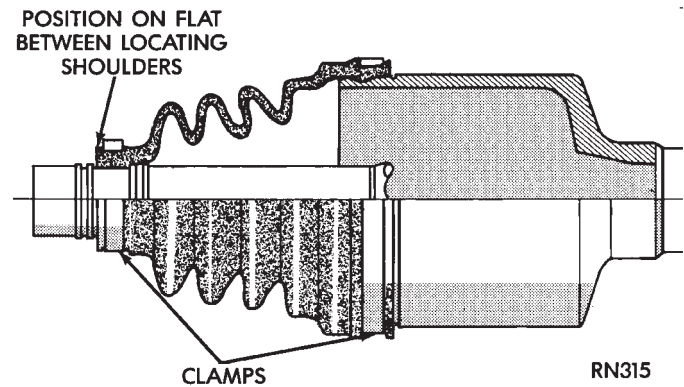

Fig. 6 Boot and Clamp Positioning
(6) Position the sealing boot into the boot retaining groove on the outer C/V joint housing (Fig. 6). Install seal boot retaining clamp evenly on sealing boot.